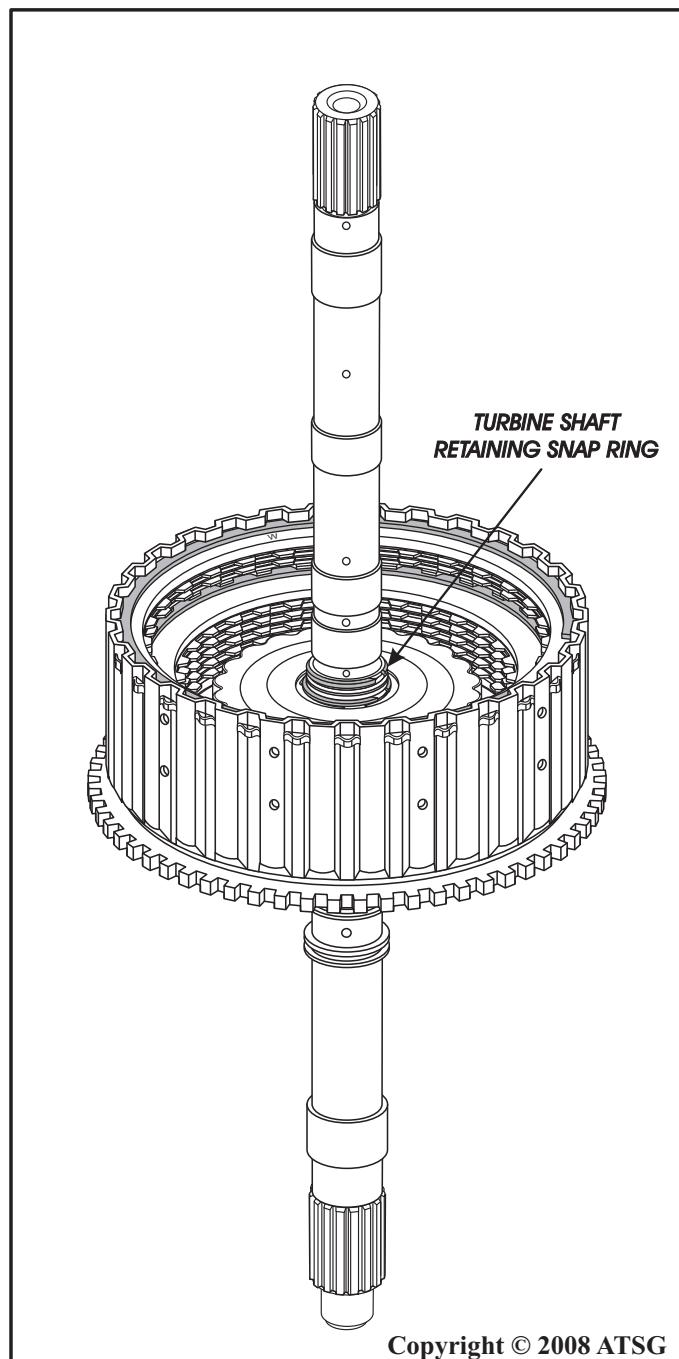

Figure 100
30. Install the turbine shaft through overdrive and reverse housing, as shown in Figure 100, and install the retaining snap ring.